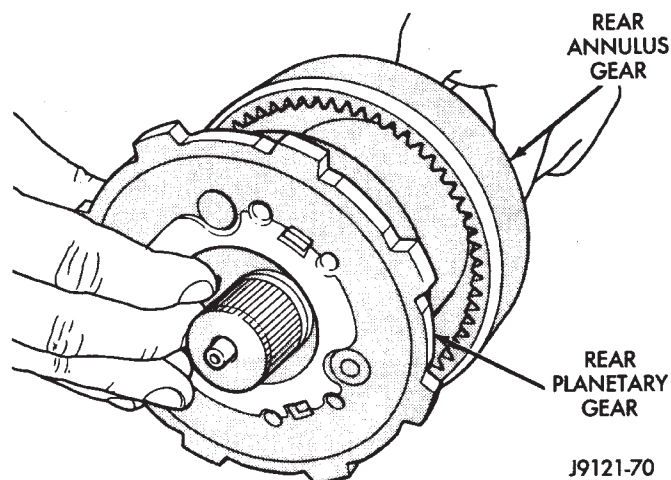

Fig. 182 Installing Rear Planetary Gear
(5) Install rear planetary gear in rear annulus gear (Fig. 182). Be sure planetary carrier is seated against annulus gear.